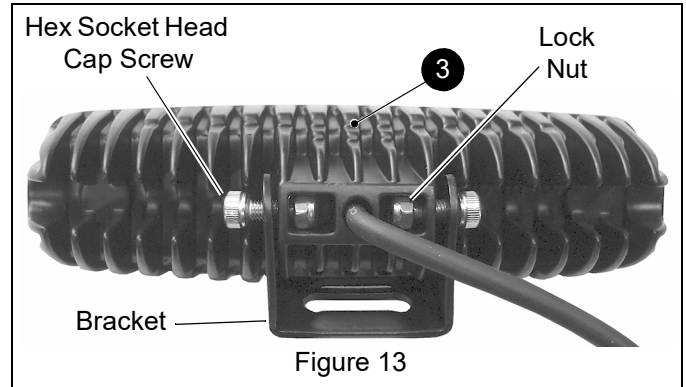

Figure 13
8. Secure brackets to headlights (item 3) with included hardware. DO NOT fully tighten hardware until headlights are adjusted. See Figure 13.